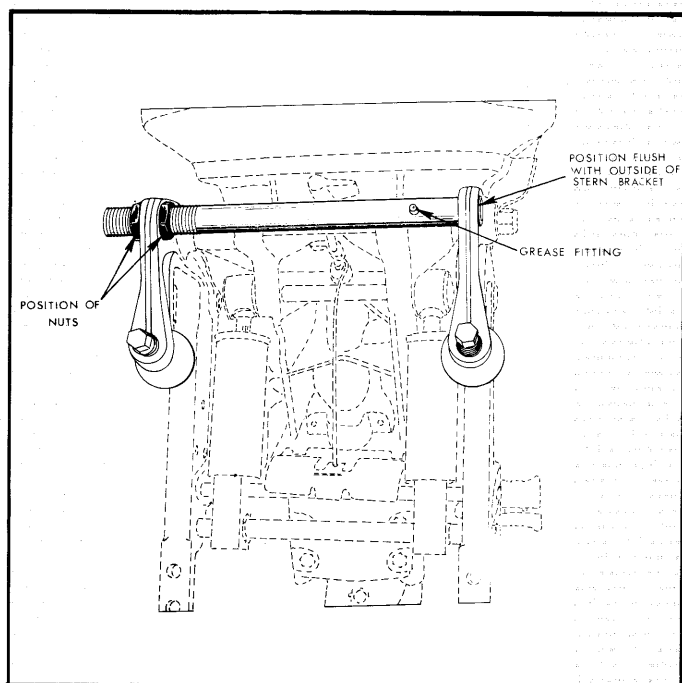

Figure 3B — Installing Steering Tube
- B. Slide tube through stern bracket - starboard and adjust nut until port end of steering tube is flush with stern bracket - port. See figure 3B.